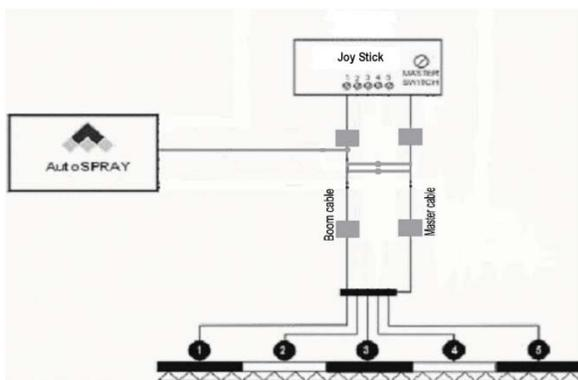

Figure 2.1 Schematic layout of typical AutoSPRAY installation
- ### II. Installation: How to connect and install the Rogator 12x4 AutoSPRAY cable. The installation and configuration of the Leica guidance system is detailed in the appropriate User Manual. Refer to the figure 2.1 for a schematic layout of the Leica AutoSPRAY and its relevant cabling to the Leica guidance system, GPS receiver and spray rate controller.